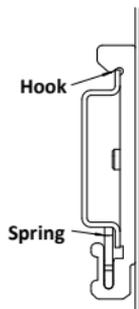

Fig. 2
1. Place the bottom edge of the DIN rail under the spring of the DIN rail mount (Fig. 2).
3. Attach the DIN rail mount hook to the upper edge of the DIN rail (Fig. 2).